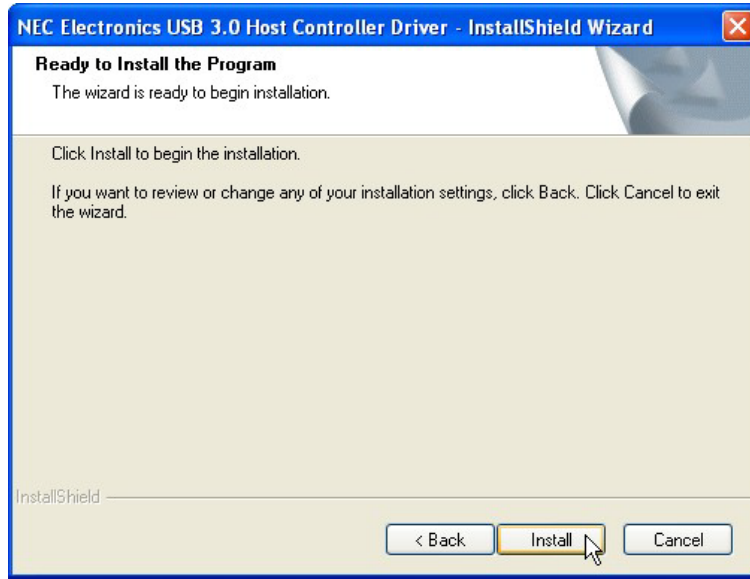

Figure 6-31: USB 3.0 Driver Installation
Step 11: The **Ready to Install the Program** screen in **Figure 6-31** appears.